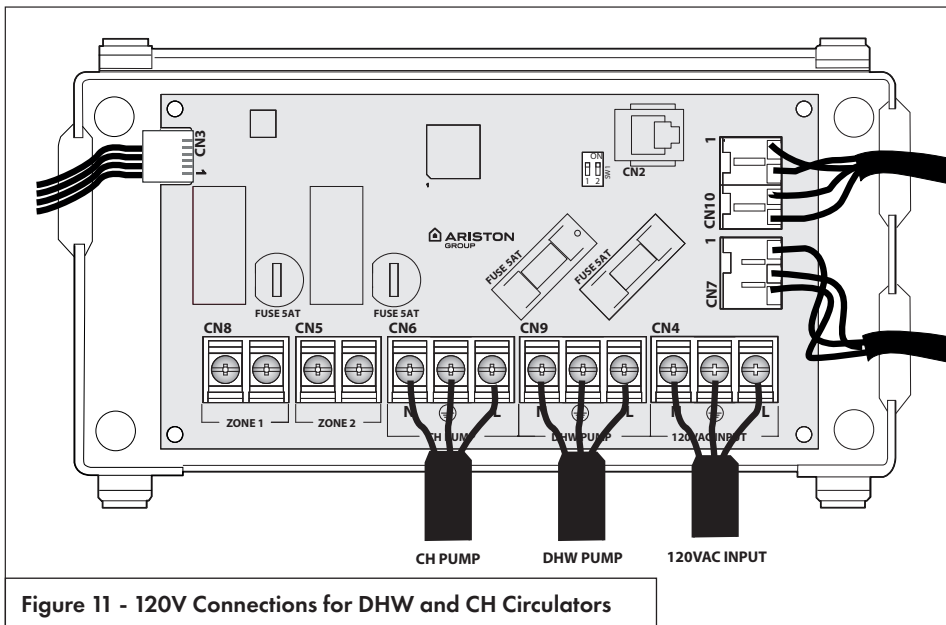

Figure 11 - 120V Connections for DHW and CH Circulators
6. Connect the field wiring to the respective output; see Figure 11.